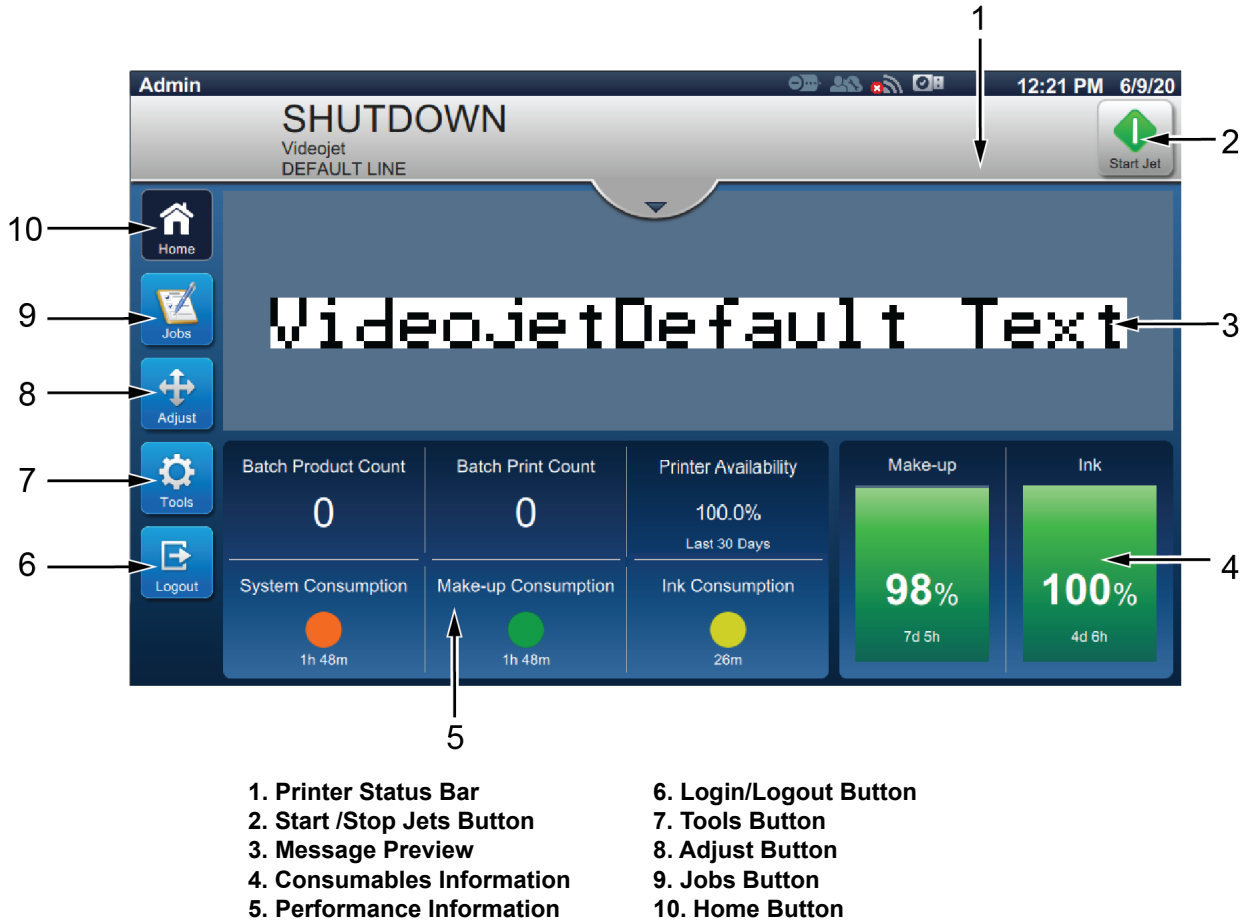

Figure 6-1: Home Screen
The User Interface (UI) has buttons that allow the user to navigate to different screens of the interface. The Home screen of the UI is as shown in the Figure 6-1. To navigate quick touch to select an item, touch and drag to scroll through the menu or page and use arrows to scroll or increase/decrease values. Use the utility keypad and keys to enter the required text, numbers or special characters.